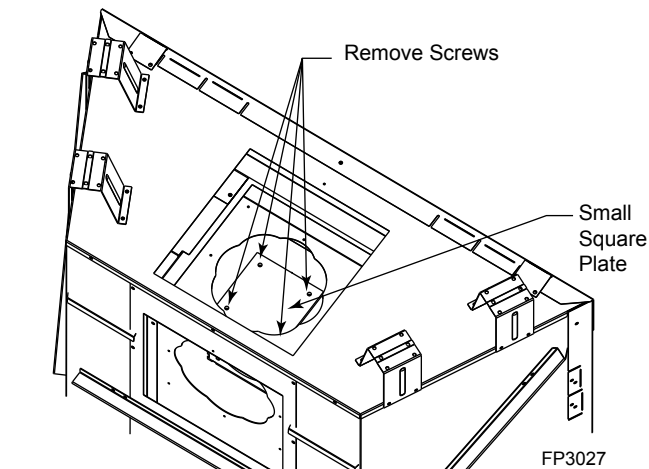

Figure 12 - Remove Small Square Plate and Gasket
- 7. Remove the small square plate and gasket by removing four (4) screws. Set aside. *Figure 12*